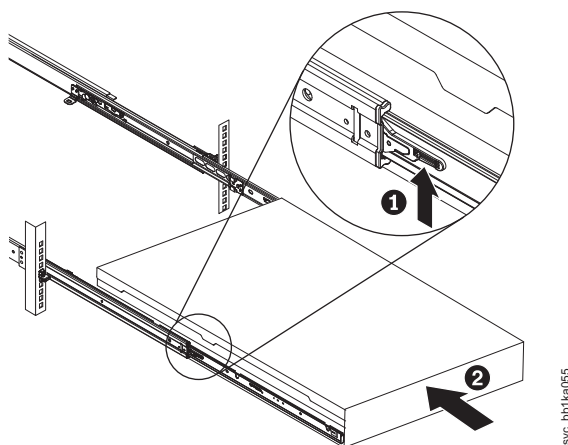

Figure 315. Raising the locking levers of the slide rails of the rack
15. Lift the locking levers (**1** in Figure 315) on the slide rails and push the server **2** all the way into the rack until it clicks into place.